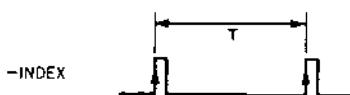

Figure 4
- 6 Adjust counter reading until it comes within specifications using SPM VR (see figure 4)